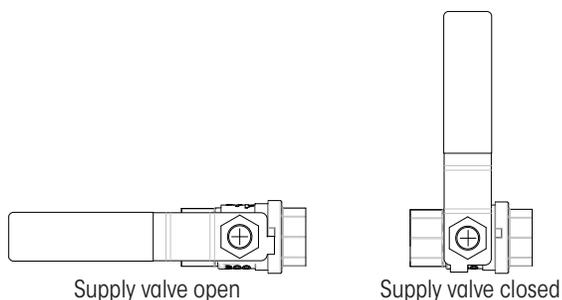

Figure 47: Supply Valve Operation
3. **Ensure** TIREMAAX supply valve (if equipped) is in open position (Figure 47).